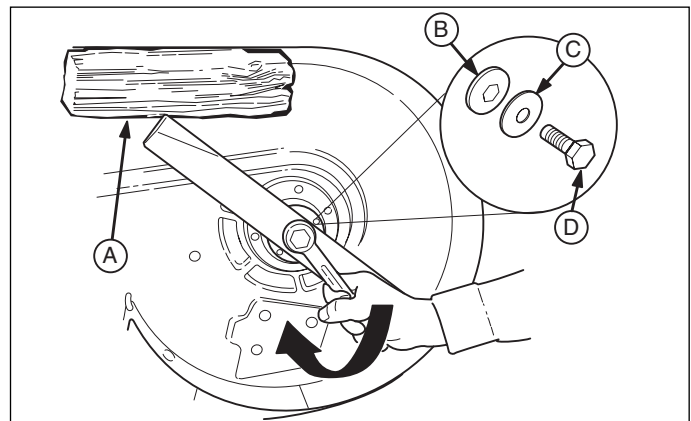

Figure 16. Blade Installation
3. Remove the capscrew (D, Figure 16), spring washer (C), hex washer (B), and blade.
6. Reinstall the blade (Figure 16) with the tabs pointing up toward the mower deck as shown.
7. Reinstall the hex washer (B, Figure 16), spring washer (C) and capscrew (D). Use a wooden block (A) to prevent blade rotation while tightening the capscrew (D) to 61-75 N.m (45-55 ft. lbs.).